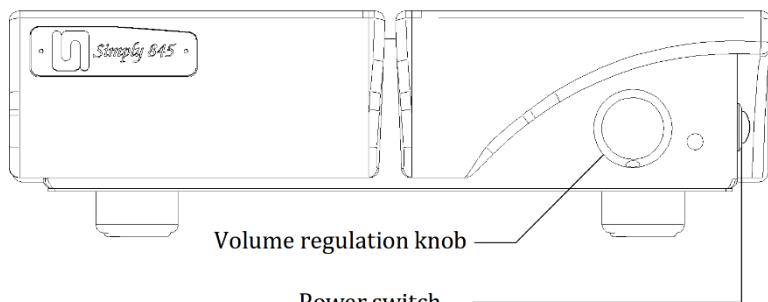

Figure 1
**Before plugging the power plug in the wall socket, make sure that the power switch is in the “OFF” position (*Figure 1*).**
The power switch is located on the right side of the unit (*Figure 1*).
Before turning the unit on, make sure that the volume level is at the minimum: the knob on the front panel (*Figure 1*) must be turned all the way counter-clockwise. This precaution is suggested to avoid stress to the speakers.